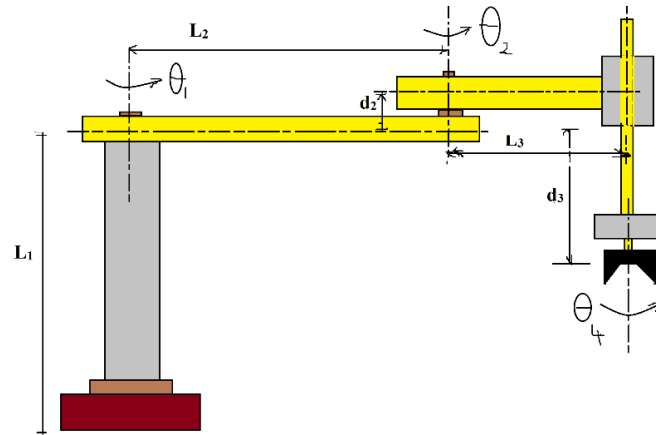

Fig.Q2B
- 2B. Obtain the forward kinematics equation of the 4 DoF SCARA robot shown in Fig. Q2B.